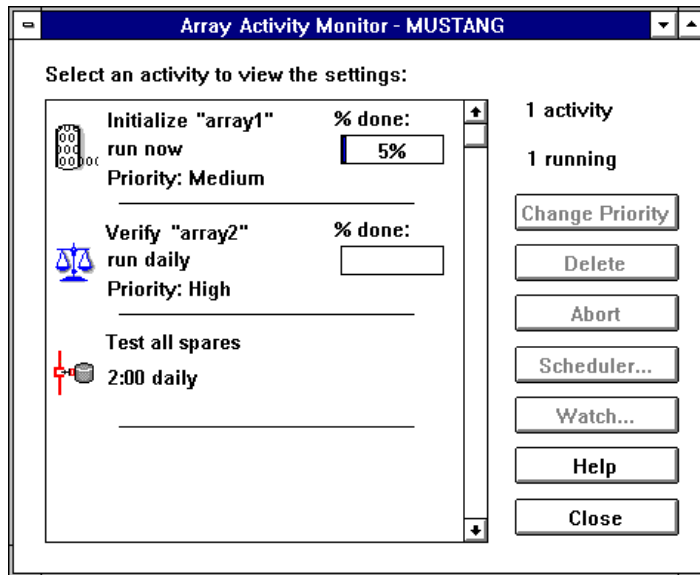

Figure 7-2. Array Activity Monitor Window
- 1 Select **Activities** from the View menu. The Array Activity Monitor window appears, as shown in Figure 7-2.